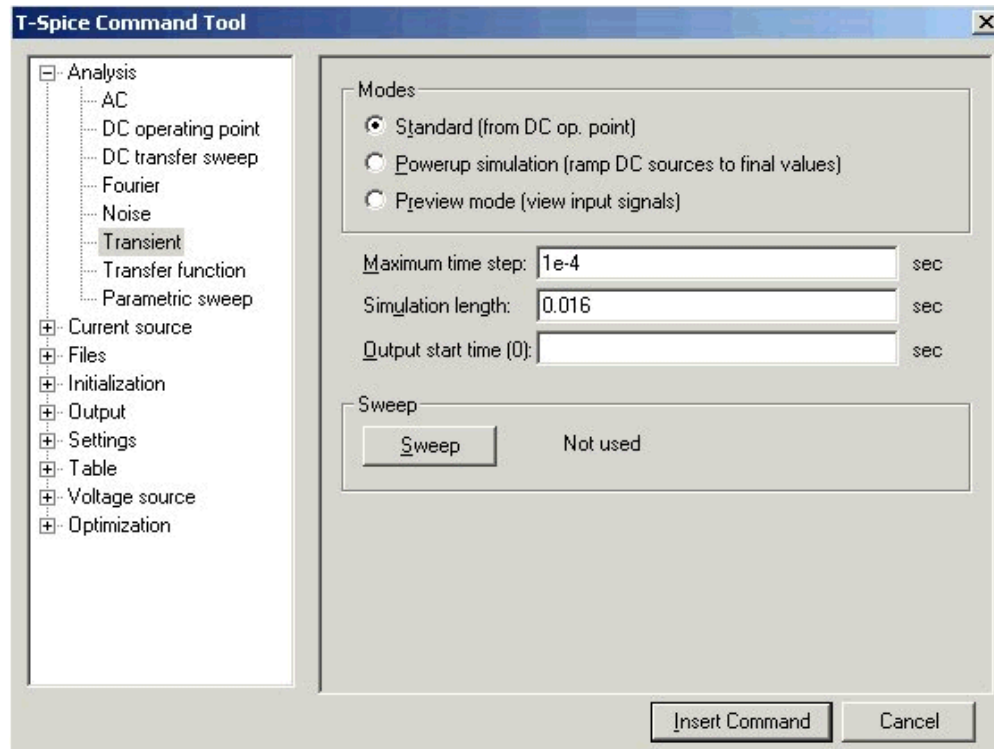

Figure 132: T-Spice Command Tool dialog
- ☑ Select **Analysis > Transient** in the opening dialog box (Figure 132).